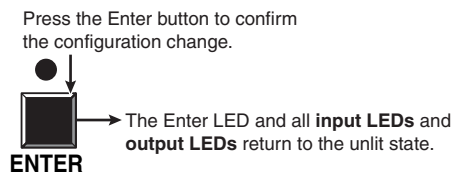

Figure 3-19 — Press the Enter button
5. Press and release the Enter button (figure 3-19).